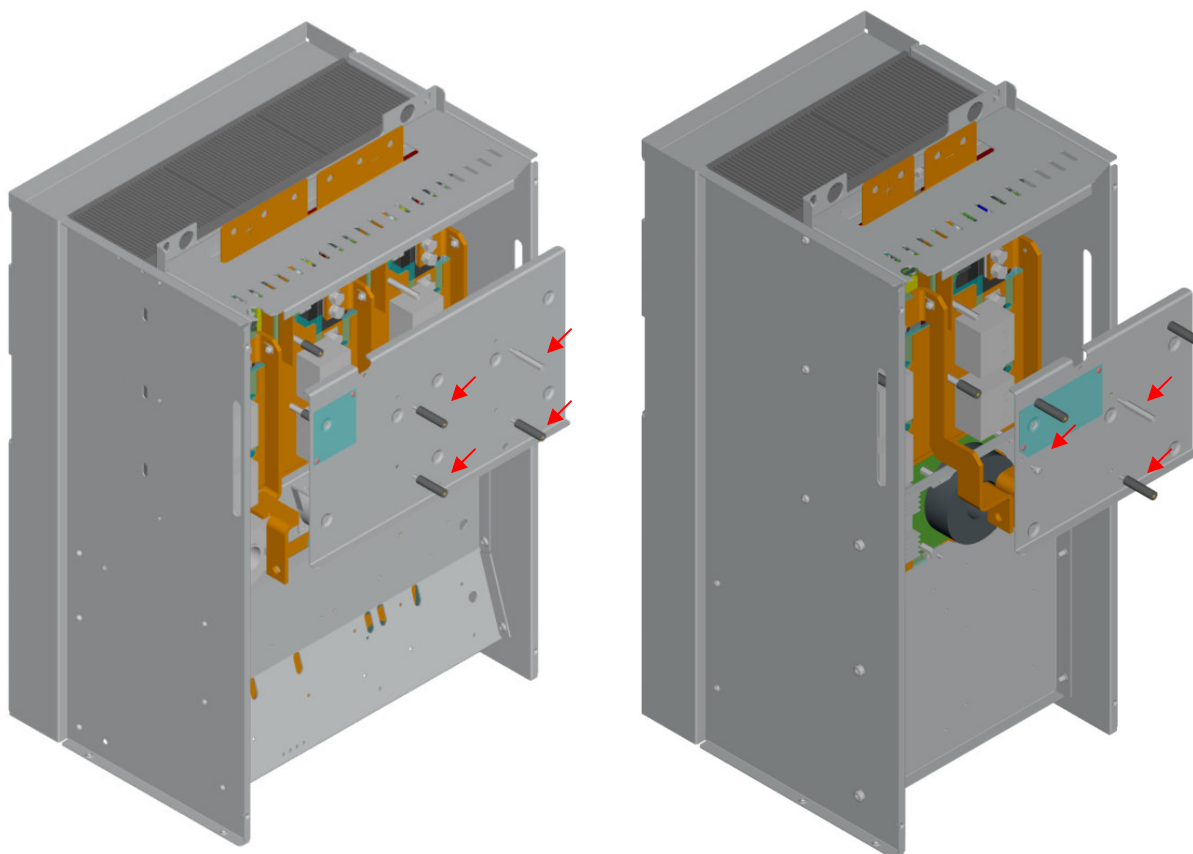

Figure 3. Remove the shield plate.
3. Remove the shield plate (figure 3). When removing note the positions of different spacer screws.